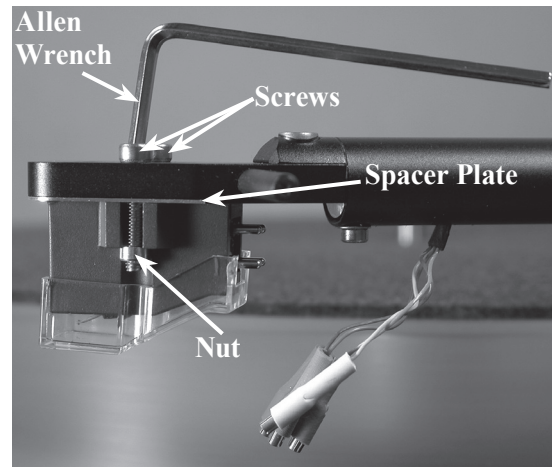

Figure 24
4. Position the Cartridge parallel to front and sides of the headshell and secure it with the supplied screws and nuts using the appropriate tools. Refer to figure 24.